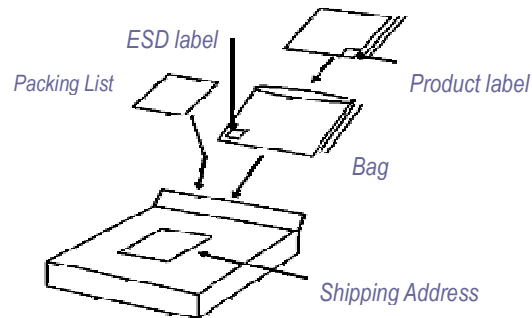

Fig 6-3 Package list
6.5.1 The sheet (blue adhesion tape + mesh curtain+ glossy paper) must be packed in an anti-electrostatic bag and paper box for shipment(See Fig 6-3)